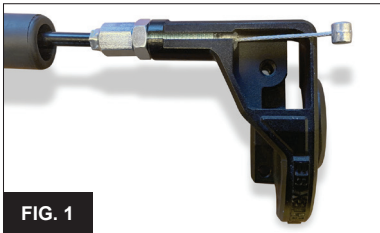

FIG. 1
4. Remove mounting screws and separate the top and bottom halves of the housing (C and D) and throttle tube (A).
5. Install the cable into the upper throttle housing (C), run the threaded adjuster all the way into the housing until it bottoms out. This will give you the maximum amount of free length on the inner wire and make assembly easier (Fig. 1).